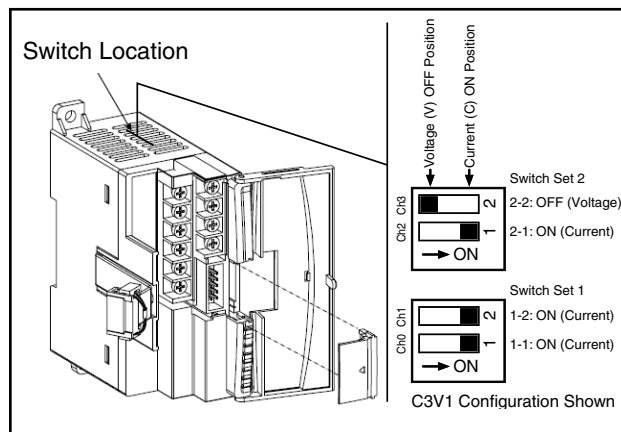

Figure 21-1
The Analog Input Module input type switches are configured at the factory. The switches are accessed through the ventilation slots on top of the module. See Figure 21-1.
- "C" followed by a number indicates switches set to the Current or ON position. See Figure 21-1.
- "V" followed by a number indicates switches set to the Voltage or OFF position. See Figure 21-1.